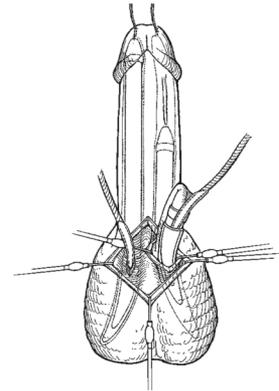
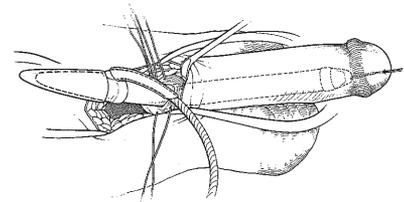

Figure 4-14a. Penoscrotal: Insert Cylinders
Figure 4-14b. Infrapubic: Insert Cylinders
15. Fold cylinder back on itself, then push proximal end of cylinder into the crus while gently stretching the distal penis (**Figure 4-14a**, **Figure 4-14b**). Alternatively, place the “U” shaped portion of the proximal tool at the junction between the output tube and cylinder and use the tool to push the proximal end of the cylinder into the crus while gently stretching the distal penis. The flatter side of the tool should face toward the cylinder.